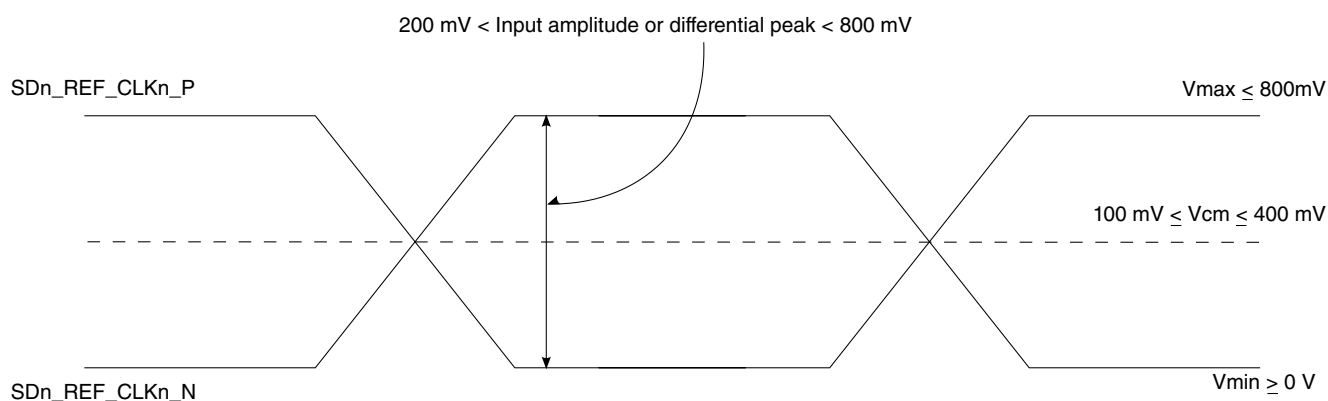

Figure 69. Differential reference clock input DC requirements (external DC-coupled)
- For an external DC-coupled connection, as described in SerDes reference clock receiver characteristics, the maximum average current requirements sets the requirement for average voltage (common mode voltage) as between 100 mV and 400 mV. Figure 69 shows the SerDes reference clock input requirement for DC-coupled connection scheme.